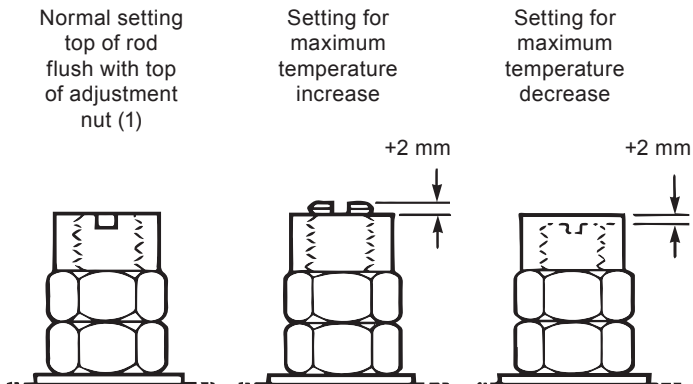

Fig. 9
Using a 16 mm A/F spanner hold the adjustment nut (1) and slacken the lock nut (2). Now using a screw-driver in the slot provided to prevent the rod turning, the adjustment nut (1) and lock nut (2) may be repositioned up to a maximum of ± 2 mm as shown on Figure 9.